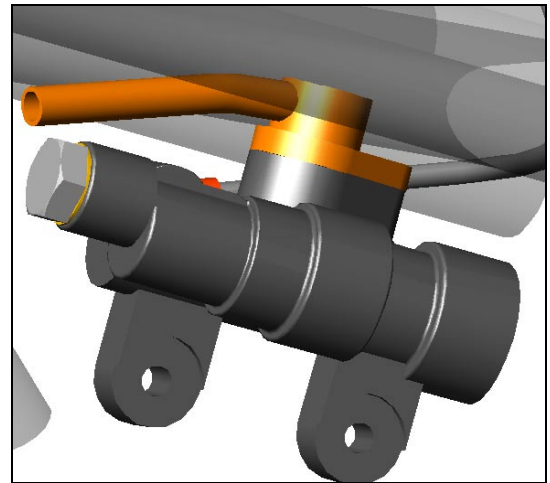

Figure 14
- f. Install Champion reservoir inlet fitting to rear master cylinder using o-ring from OEM inlet fitting. Figure 14